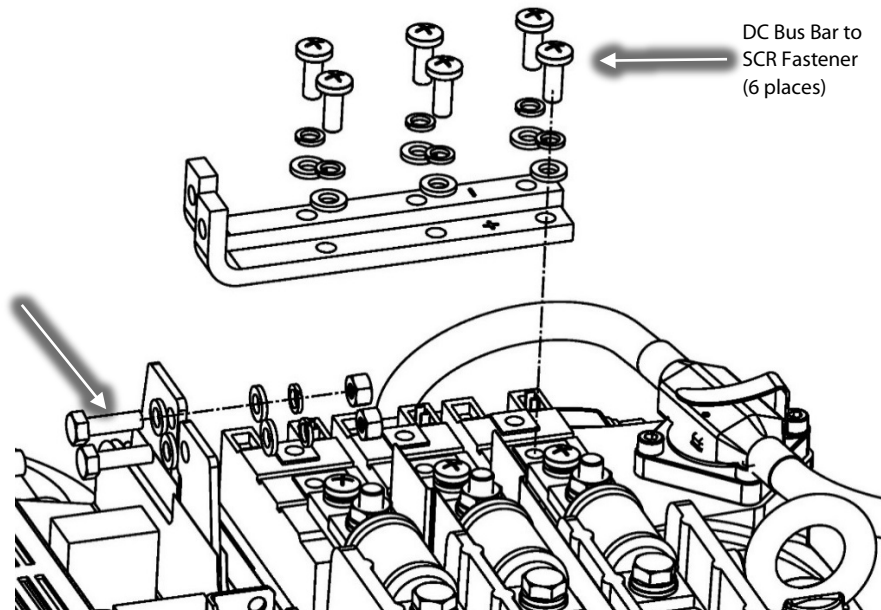

Figure 7 – DC Bus Bar Removal
15. Remove the M6x20 fasteners that secure the DC Bus Bars to the Capacitor Bus Bar Assembly. Refer to Figure 7 (DC Bus Bar Removal) for this and the following step.